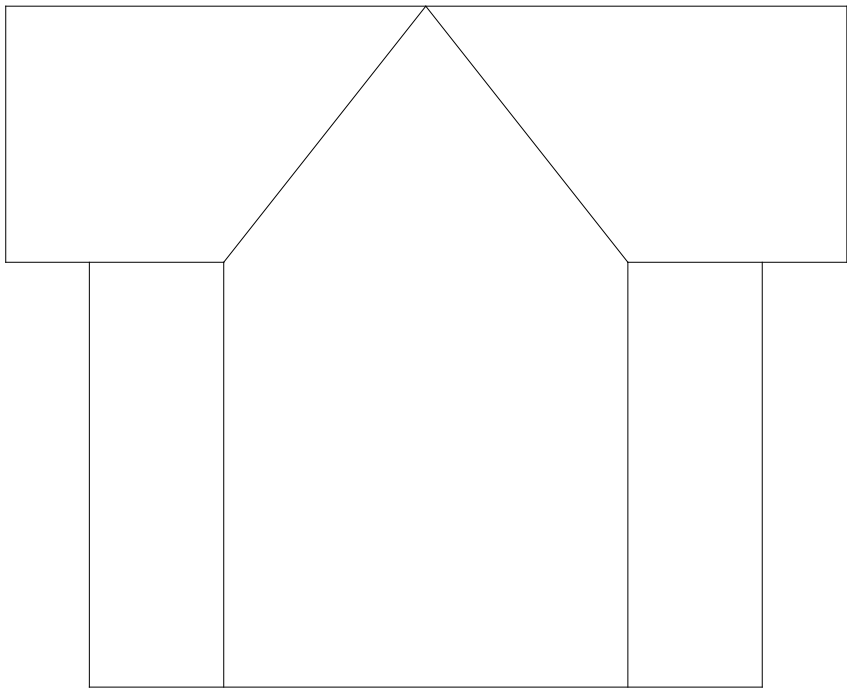

Figure 8.3
2. The dimensions of our model are as follows: back wall, 8"; two side walls, 4" each; front projection – 4" wide "bump out", stepped out 1" on either side; with 2" panels on either side of the bump out. As you can see from the sketch, the 4" side walls will support the main gabled roof, and the front projection will support a smaller intersecting gabled roof over the bump out. The height of the walls of our house will be 5", and the heights of the gabled roofs have yet to be determined. Front and side elevations of the house are indicated in **Figures 8.3 and 8.4**.